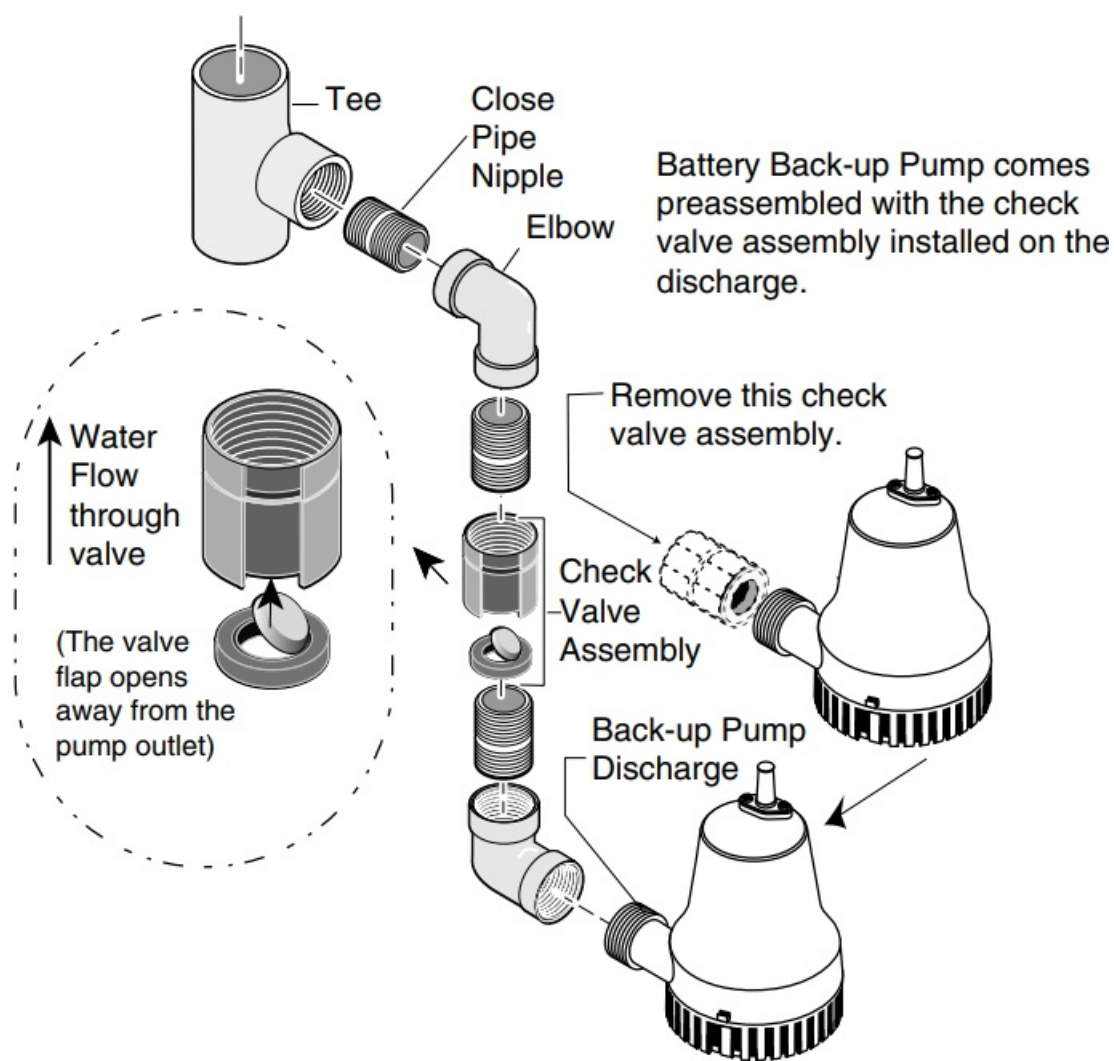

Figure 5 – Remove the pre-assembled check valve
2. Remove the check valve assembly (Key No. 4 on Page 15) from the battery back-up pump (Key No. 5) discharge and set it aside. See Figure 5. The check valve assembly will be used later, during assembly.
NOTICE: Make sure the check valve is installed in the correct direction. See the inset drawing in Figure 5.